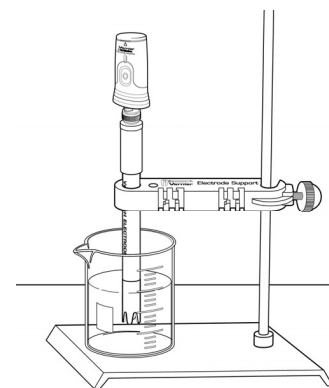

Figure 3
3. Place the sensor tip into a beaker containing your sample. It is recommended that you use a utility clamp or electrode support to fasten the Go Wireless Electrode Amplifier and its electrode to a ring stand, as shown in Figure 3 for a pH electrode. **Note:** To collect titration data, tap the wrench in the upper-right corner of Graphical Analysis, and select Start Titration.